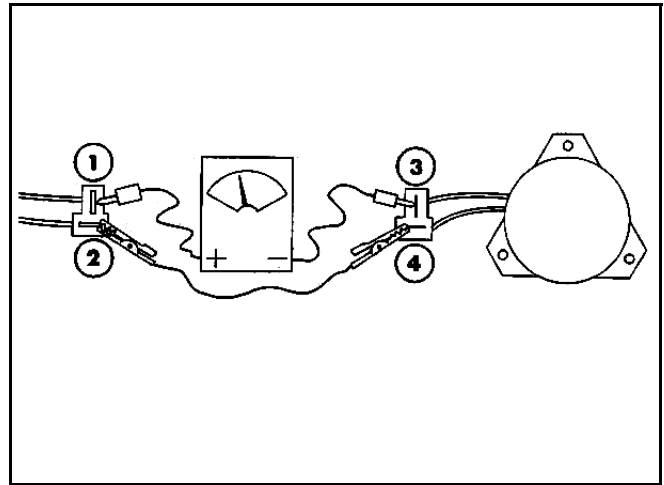

Figure 229
4. Connect the positive meter lead to the tractor terminal (1) of the clutch wire, Figure 229.
5. Connect the negative meter lead to the corresponding wire terminal (3), Figure 229.
6. Connect a short jumper lead from terminal (2) to (4), Figure 229.